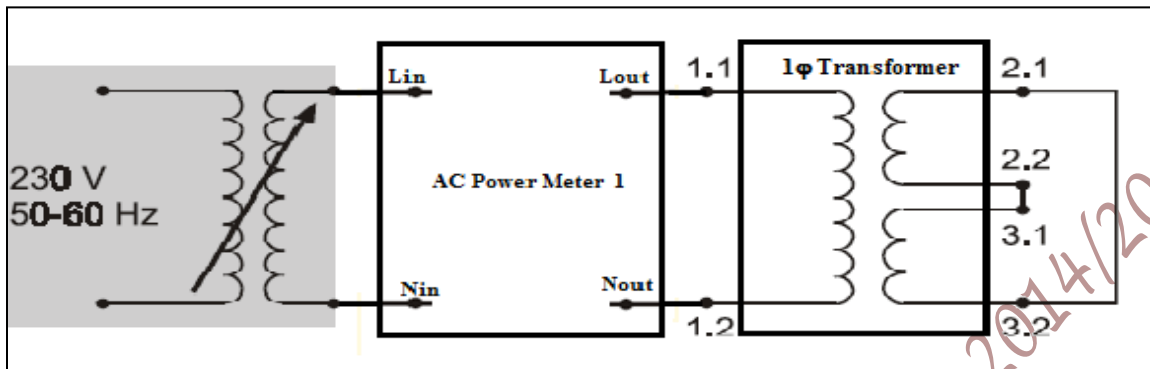

Figure 2.4: Circuit for Measuring Short-circuit Voltage
1. Set up the circuit as shown in Figure 2.4